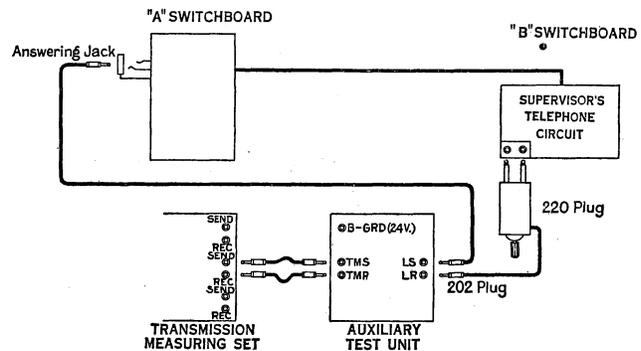

Figure 2
- 2.25 Figure 2 shows schematically the connections for the test.